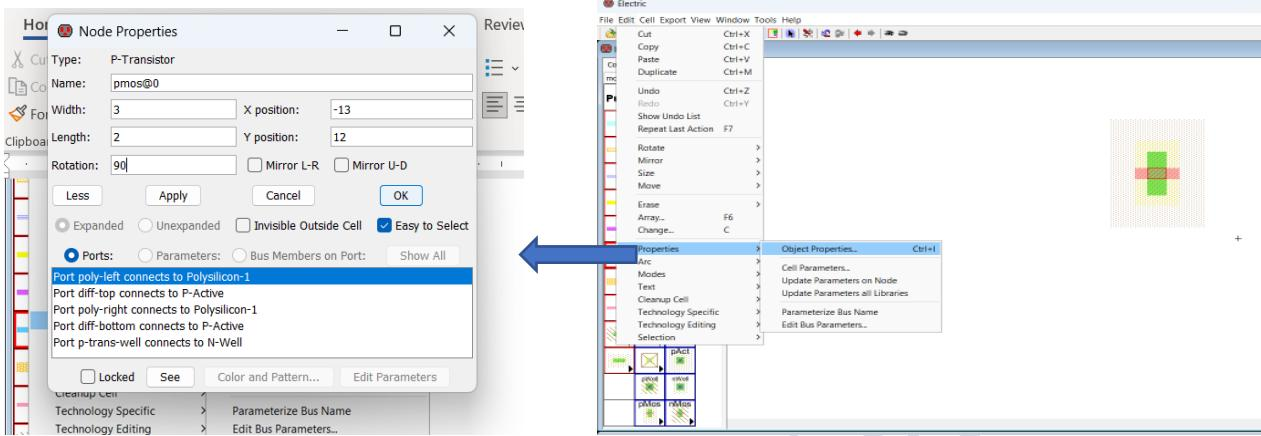

Figure 1.35: changing transistors size.
3. Change the width to 10 and the length is set to 2 of the transistors NMOS and PMOS: click on the component you need to change such as PMOS then click on Edit>>properties >>Object Properties >> change the width and length >> OK. (see Figure 1.35).